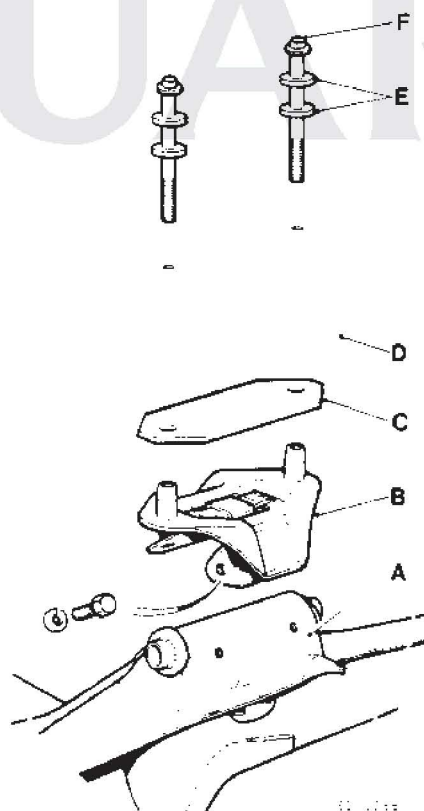

Fig. 2.
6. The Camber Angle Adjustment Shims (Item C, Fig. 2) are fitted between the crush tube (Item D) and the 'V' Mount (Item B), as indicated in Fig. 2.
IMPORTANT: WHERE SHIMS ARE FITTED, THE EXISTING BOLTS (ITEM F, Fig. 2) MUST BE REPLACED BY LONGER BOLTS, PART NO. JZB 100057, TOGETHER WITH 2 WASHERS, PART NO. C 21069 (ITEM E, Fig. 2) FITTED BETWEEN THE HEAD OF EACH BOLT AND THE UPPER FACE OF THE CRUSH TUBE.